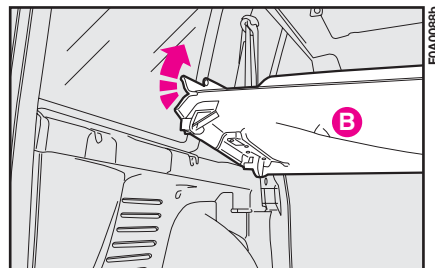

fig. 126
4) Lift part **B**-fig. 126 making the shelf slide along the available space behind the seat so that the upper part is fastened to the rear window shelf and the lower central part to the seat.